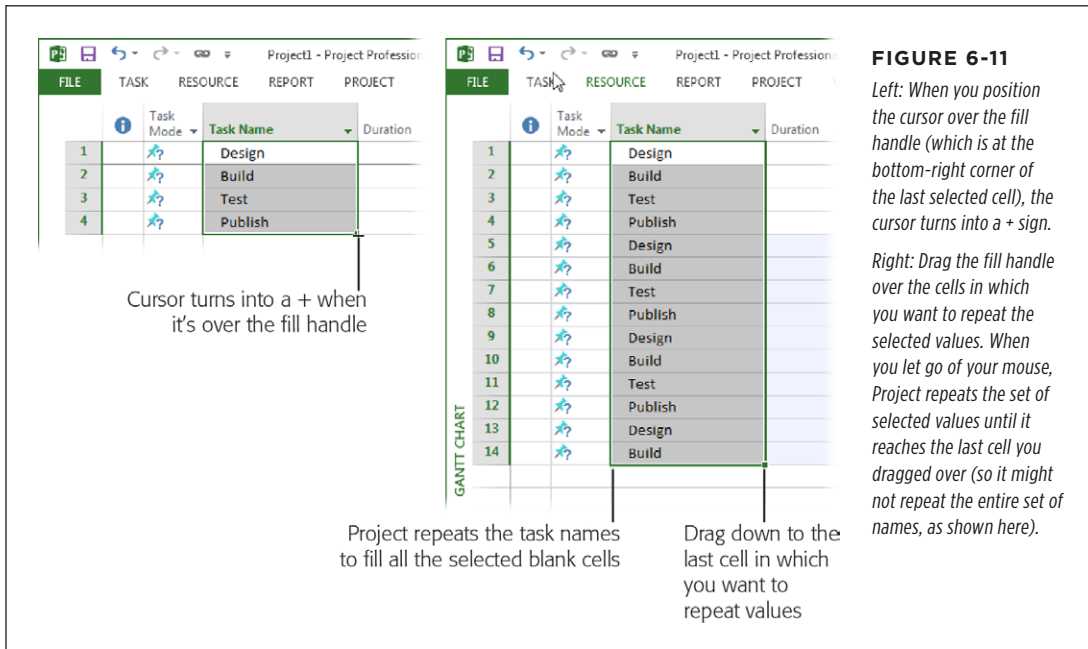

FIGURE 6-11
- **Repeat a set of task names.** Say you have a set of task names that you want to repeat several times, such as the steps for setting up several websites for a project. In this case, Project's *fill handle* is just the ticket. The fill handle is the little green box at the lower right of a selected cell (or range of cells); it lets you copy the content of cells to adjacent cells in your task list. First, select the Task Name cells you want to copy. Then position your mouse pointer over the lower-right corner of the last Task Name cell; you can tell when the pointer is over the fill handle because the pointer turns into a + sign, as shown in Figure 6-11 (left). Then drag the fill handle over the Task Name cells into which you want to copy the selected names. When you let go of the mouse, Project repeats the existing task names in the blank Task Name cells you dragged over, as shown in Figure 6-11 (right).